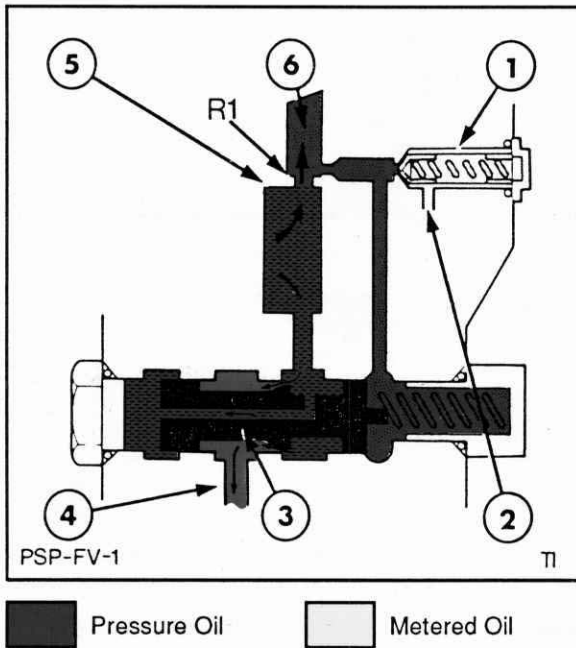

Figure 7-10A
Below 1700 erpm the pump output flow to the motor through restrictor 'R1' does not create differential pressure across the flow control valve. Therefore, pressure on both ends of the flow control valve (3) is equal, the valve spring 'closes' the outlet (4) to the reservoir, Figure 7-10A.